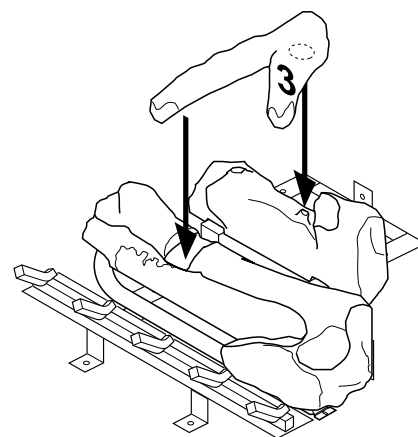

Figure 50 - Installing Log No. 3
3. Place log #3 (crossover log) onto the rear and front logs. Make sure it is seated properly into the notch on the front log and over the raised triangular portion of the rear log as shown in Figure 50.